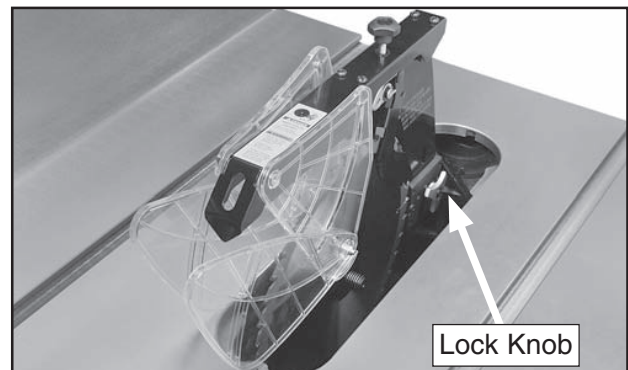

Figure 64. Location to secure blade guard.
3. Insert the spreader into the bracket slot and tighten the lock knob shown in **Figure 64** to secure the spreader.